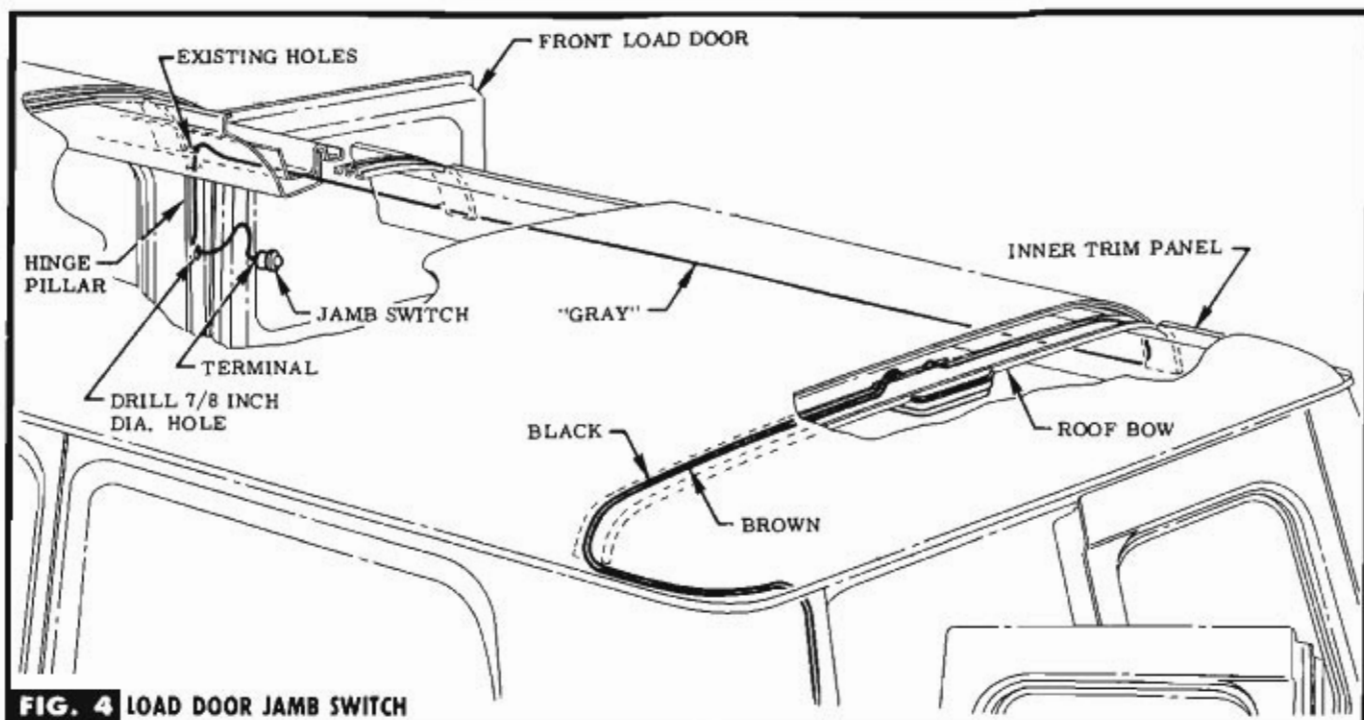

FIG. 4 LOAD DOOR JAMB SWITCH
STEP 8 PUSH GRAY WIRE OVER FORWARD FLANGE OF ROOF BOW & ROUTE BEHIND R. H. SIDE INNER TRIM PANEL INTO R. H. FRONT LOAD DOOR HINGE PILLAR. SEE FIG. 4.
STEP 9 PUSH BROWN & BLACK WIRES OVER FORWARD FLANGE OF ROOF BOW. ROUTE BROWN WIRE ALONGSIDE BLACK WIRE TO DRILLED HOLE IN REAR DOOR PILLAR. SEE FIG. 4.